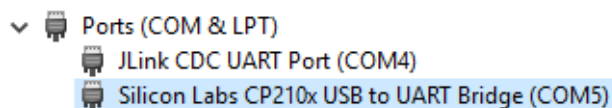

Figure 8. RSL10 Dongle COM Port Number
- Use the Windows Device Manager to find the COM port number assigned to your RSL10 Dongle, identified by the Silicon Labs USB to UART Bridge (COM5, in the example in Figure 8):